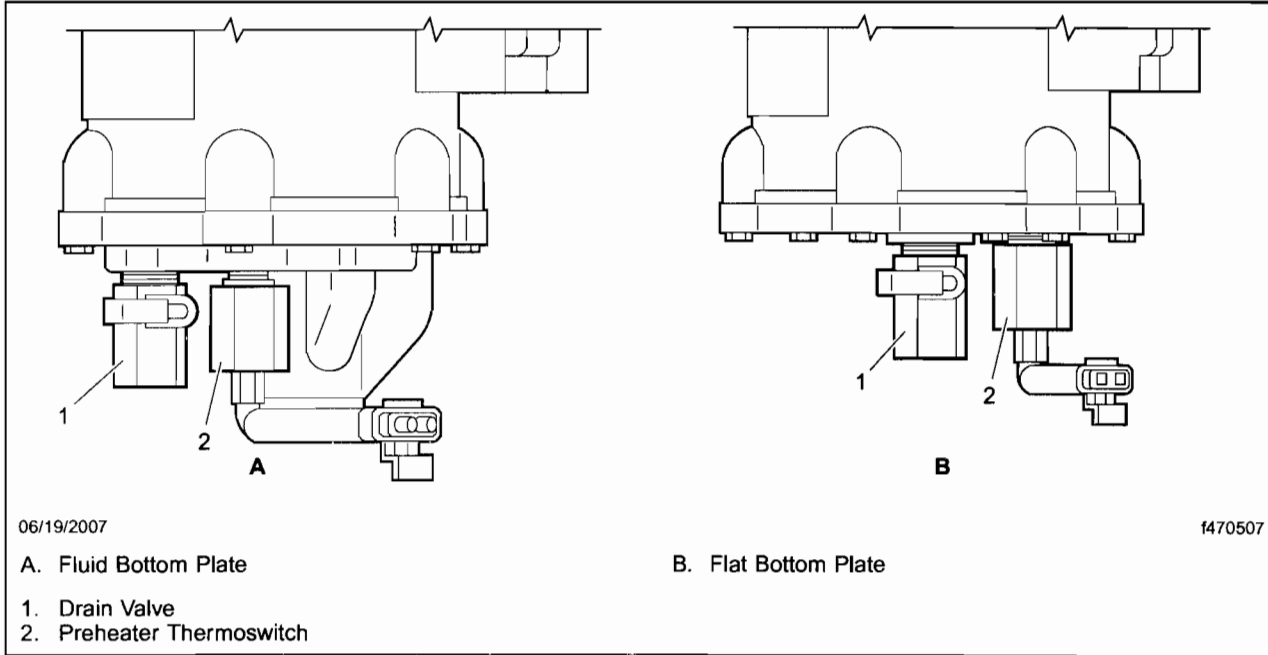

Fig. 2, DAVCO Fuel Pro 382 Drain Valve and Preheater Thermoswitch
2. Place a drain pan under the Fuel Pro and open the drain valve on the bottom of the fuel-water separator and completely drain the Fuel Pro. See **Fig. 2** . Dispose of the fuel properly.